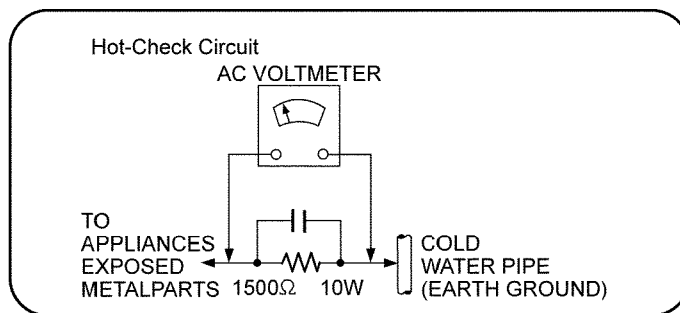

Figure. 1-1
2. Connect a $1.5k\Omega$, 10 watts resistor, in parallel with a $0.15\mu F$ capacitors, between each exposed metallic part on the set and a good earth ground such as a water pipe, as shown in Figure 1-1.